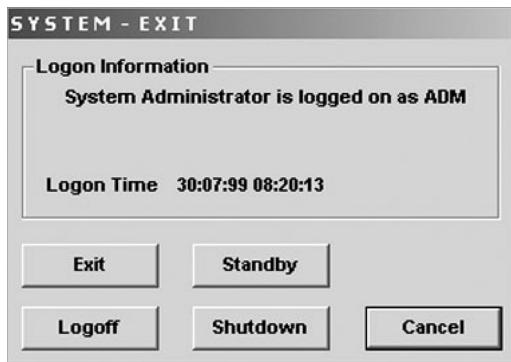

Figure 4-5 System Exit Dialog Box
- Holding down the **On/Off** button for 3-5 seconds will evoke the display of the System Exit dialog box (see Figure 4-5). From this, you can either select *Full Shutdown* (click the **Shutdown** button) or choose to place the system in *Standby Mode* (click the **Standby** button). Both these procedures are described in detail below.
The System - Exit dialog box (Figure 4-5), used when switching OFF the unit, gives you the choices described below.
- 1.) Hold down the **On/Off** button for 3-5 seconds to evoke the display of the System Exit dialog box (see Figure 4-5 on page 4-7).